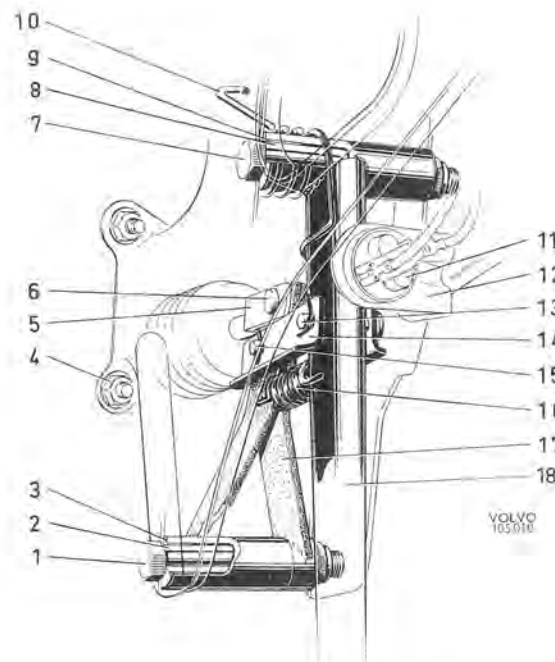

Fig. 5-67. Brake pedal suspension components
Check the distance from the brass hub on the brake light switch to the brake pedal, see Fig. 5-66, when the brake pedal is released. The distance should be 4 ± 2 mm (0.16–0.08"). To adjust, slacken the screw for the bracket (12, Fig. 5-67). Remember to tighten the screw after adjustment.
2. Remove the bracket (12, Fig. 5-67) for the brake light switch (11). Remove the split pin and bolt (13). Unhook the return spring (10) and the spring (16). Unscrew the nut for the bolt (7) and pull out the bolt.
3. Lift out the pedal (18).
4. Fit the new pedal bushes (9) and lubricate the bearing sleeves (8) with a light layer of ball-
2. Remove the bracket (12, Fig. 5-67) for the brake light switch. Remove the split pins and bolts (6—13). Unhook the return spring (10) and the spring (16). Unscrew the nuts for the bolts (1—7) and remove the screws.
3. Lift out the pedal (18) and the link arm (17).
3. Remove the bracket (12, Fig. 5-67) for the brake light switch.
4. Fit the bracket (12, Fig. 5-67), and adjust the brake light switch (11), see under "Adjusting brake light switch" on page 5 : 26.
2. Disconnect the link arm (16, Fig. 5-67) from the brake pedal. Remove the bracket with clutch pedal stop from the cowl.
1. Check that the rubber cover (35, Fig. 5-67) is pressed down properly at the protective washer for the cleaner. Secure the fork to the link arm. Push in the power cylinder so that the attaching bolts come into position.